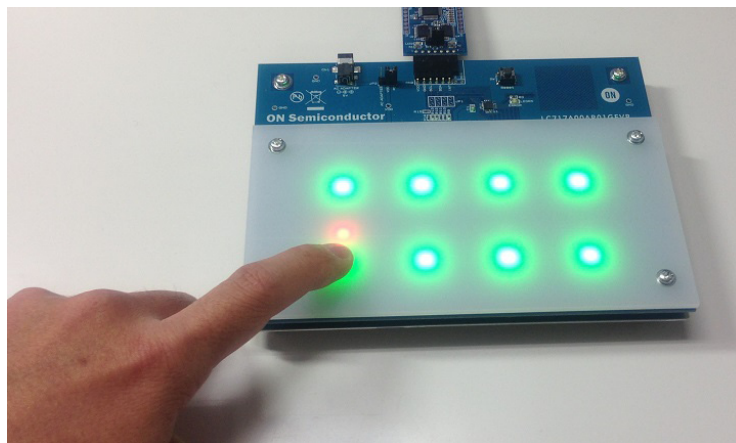

Figure 3. Red Turns On by Touching Green Light
3. Red LED will light up by touching Green LED light (See Figure 3).